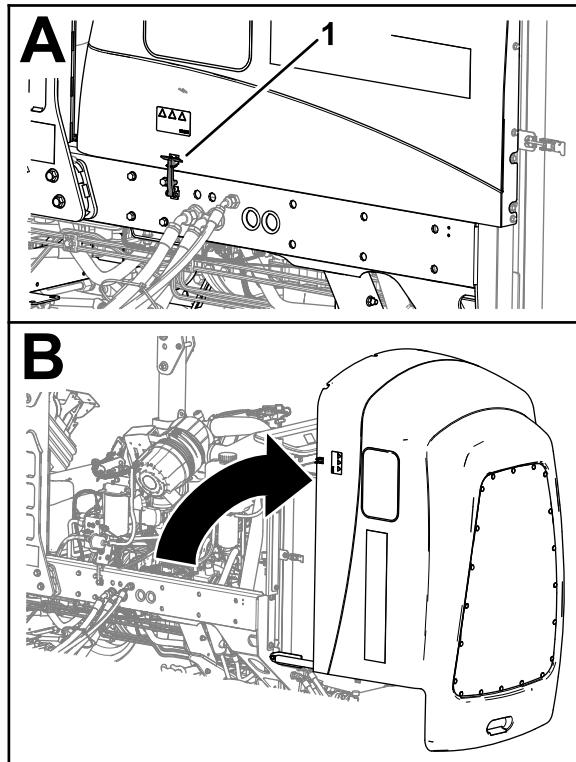

Figure 93
1. Release the 2 hood latches (Figure 93).
1. Release the rubber latch from the battery-compartment cover (Figure 93).